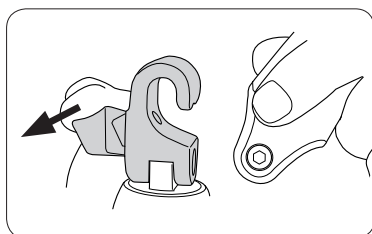

fig. 4a
Pull out the Quick-Hook Multi lock button (green button), see fig. 4a and attach the Quick-Hook Multi to Multi-link at the lift strap, release the button. The Quick-Hook Multi now locks in to the lift strap Multi-Link, see fig. 4b.
1. If the slingbar includes the quick-release hook, remove the Slingbar by disconnecting the quick-release attachments as shown in figure 4a&4b, page 5.